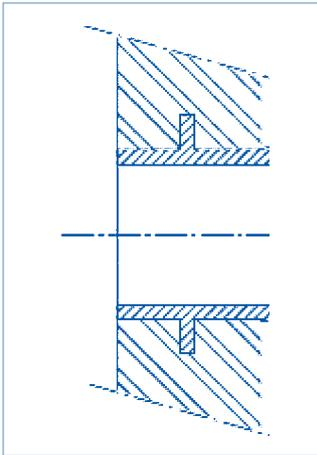

Figure 30: Puddle flange
1. GRP pipe piece provided with a puddle flange, (Figure 30).